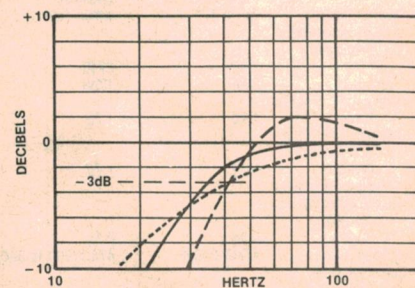

Fig. 6
One other point warrants repetition from page 100 of the February issue: If a sealed enclosure has been optimally designed to complement a particular driver, it is unwise to arbitrarily increase the enclosure volume with the idea of gaining extra bass response. The resonance of the system may indeed be moved to a lower frequency but the "Q" of the system could also be lowered (Fig. 6), causing the response curve to droop, with a marginal loss, rather than a gain in useful response.
**Fig.6: The solid curve shows the bass response of a critically designed sealed enclosure. A too-small enclosure produces an undesirable peak (dashed) but too large causes the curve to droop (dotted).**